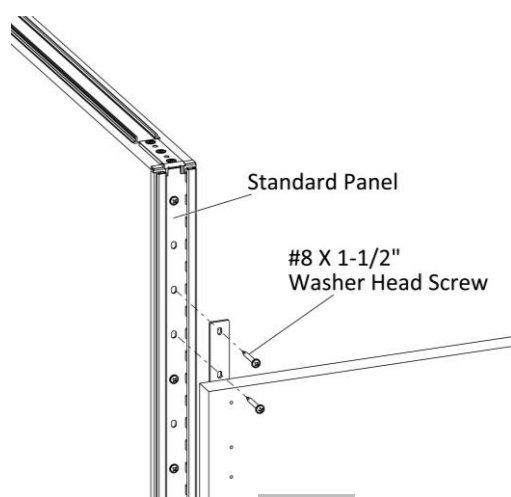

Figure 2
- 3. Position the standard panel and the gallery panel to create a 90-degree connection, (Figure 2).